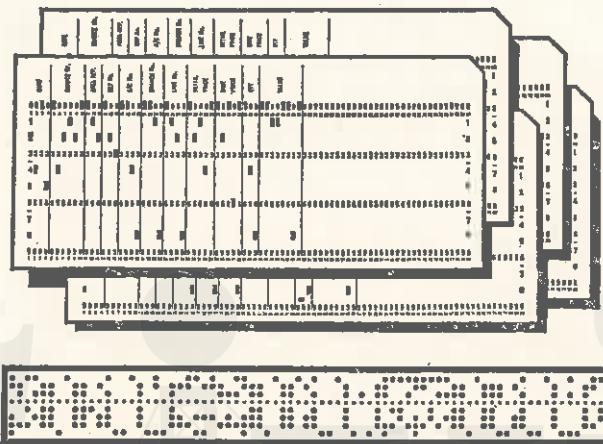

Fig. 36.7. (Above) 80-column punched cards : read into the computer via the card reader. (Below) 7-channel punched paper tape for computer input.
(1) Punched Cards Input
- The standard present day *punched card* is a piece of thin card board measuring $7 \frac{3}{8}$ inches $\times 3 \frac{1}{4}$ inches. It is divided horizontally into 12 rows and vertically into 80 columns. A particular character is represented by a unique pattern of holes punched into one column (Fig. 36.7).
(2) Paper Tape Input
- Information is represented in a machine readable form as a pattern of holes across the width of a strip of paper tape (Fig. 36.7 and 36.8).